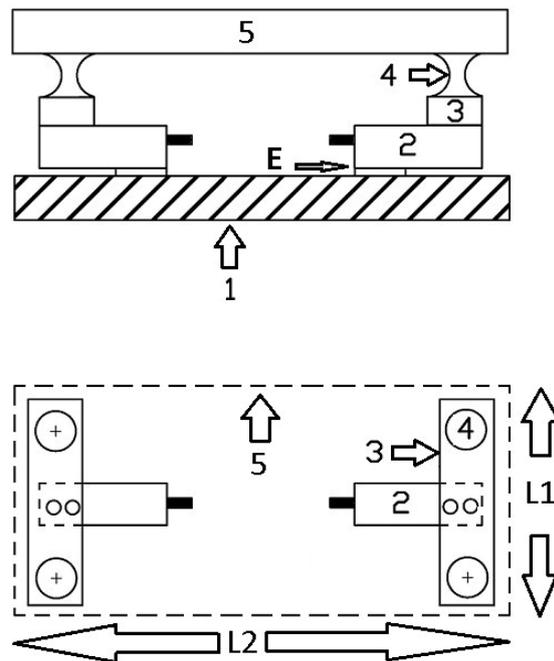

Figure 1. Mounting configuration
Key to components shown in Figure 1:
If we consider the checkweigher platform (item 5 of Figure 1) this is a platform with width L1 and length L2. The width L1 will be limited by the maximum allowable width (dimension B for the selected load cell) such that  $L1 \leq B$